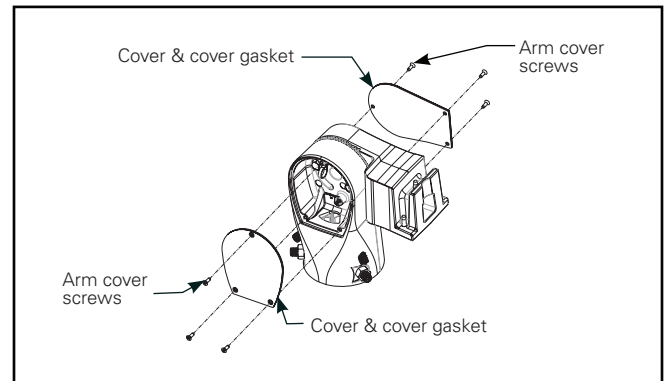

Figure 5.
2. Loosen six arm cover screws to remove the two access covers from the arm. Save hardware (Figure 5).